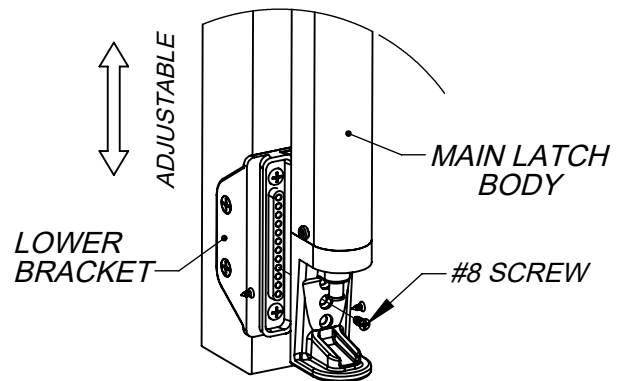

Figure 3
3. Temporarily insert the Bottom Bracket and align the holes with the (3) countersunk holes at the bottom of the Main Body (Figure 3). With the Latch at the proper height, mark the Lower Bracket location on the Post.
4. Remove the Main Body and attach the Lower Bracket with the supplied mounting screws ((2) Flat Head Screws and (2) Pan Head Screws).
2. Align the holes of the Latch and Bottom Bracket, making sure that the overall Latch Height is maintained, and secure with (1) #8 Flat Head Screw (Figure 3).